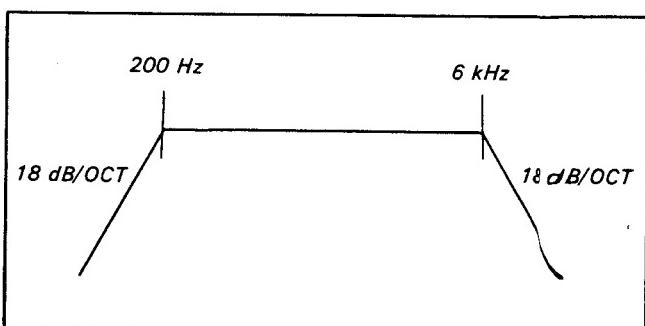

Fig. 5-36. Distortion ratio measuring filter
- 4) Be sure that the distortion ratio in both SP and LP modes is less than 0.5% (When the filter as shown in Fig. 5-36 is used), and less than 1.0% (When filter is not used).